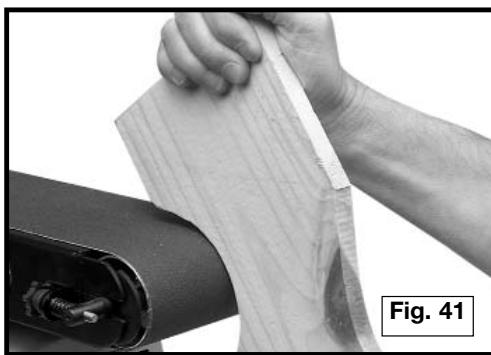

Fig. 41
Sanding inside curves with the sanding belt is illustrated in Fig. 41.
**⚠ WARNING:** Always sand on the left (downward) side of the sanding disc (Fig. 41). Sanding on the right (upward) side of the sanding disc could cause the workpiece to fly up suddenly which could be hazardous.